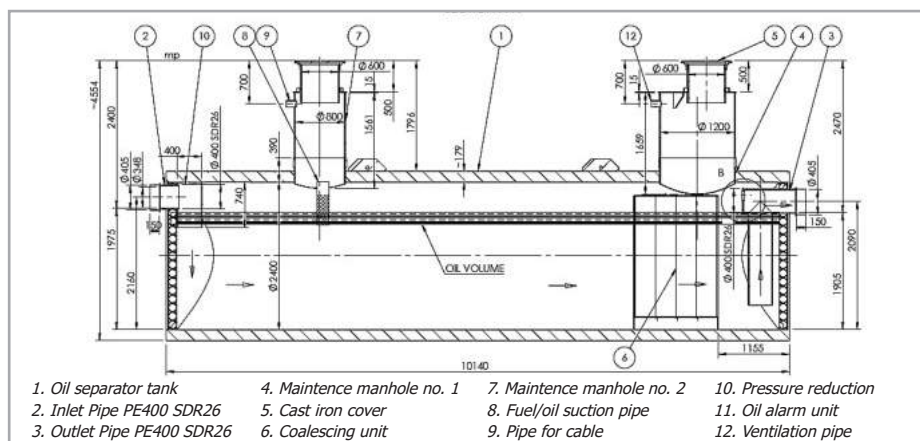

fig 2: Separator system with coalescent filter pack
- **Class II** separators: residual hydrocarbon content less than 100mg/l after the separation process. These are mostly static separators. Also most of the purely hydrodynamic water treatment systems fall under this category. (see fig. 2)